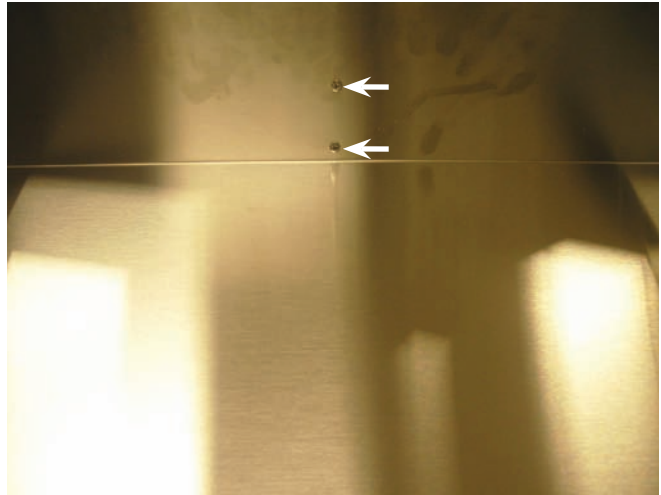

Fig 15
2. To replace the **Magnet** on the back of the drawer, remove the two (2) screws from inside the drawer holding the magnet bracket (**Fig 15**).